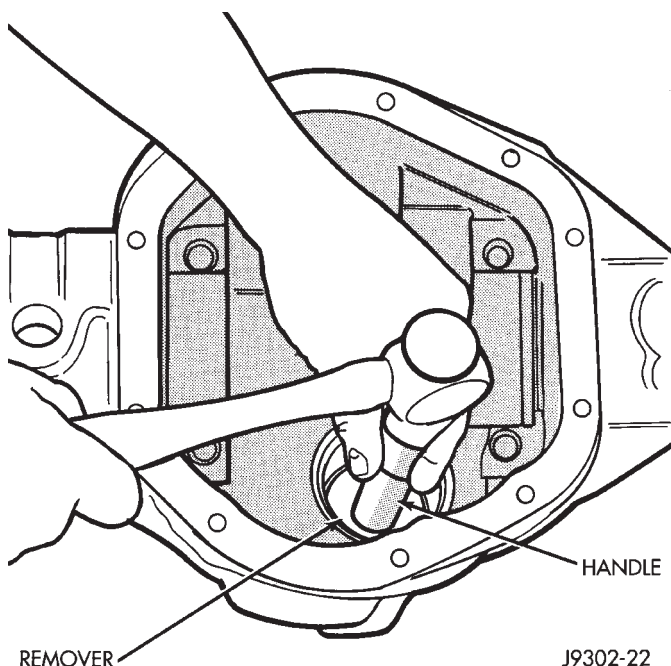

Fig. 28 Front Bearing Cup Removal—8 1/4 Axle
- (8) Remove the pinion shaft seal with suitable pry tool or slide-hammer mounted screw.
- (9) Remove oil slinger, if equipped, and front pinion bearing.
- (10) Remove the front pinion bearing cup with:
- Remover C-4345 and Handle C-4171 for the 8 1/4 axles (Fig. 28).